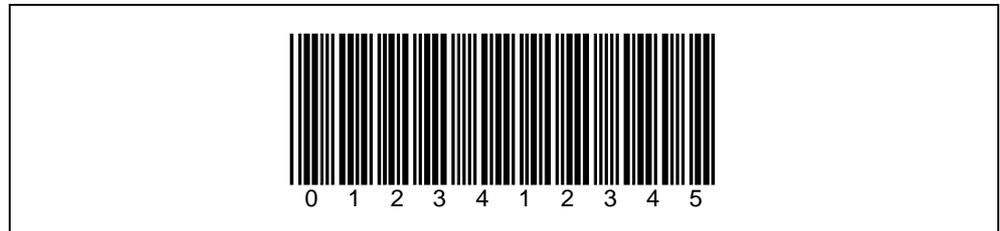

Fig. 6-1: Bar code sample (code 39, 0.35 mm, printing ratio 2:1)
3. Present the bar code sample from *Figure 6-1* to the CLP 100 at a distance of approx. 35 mm.